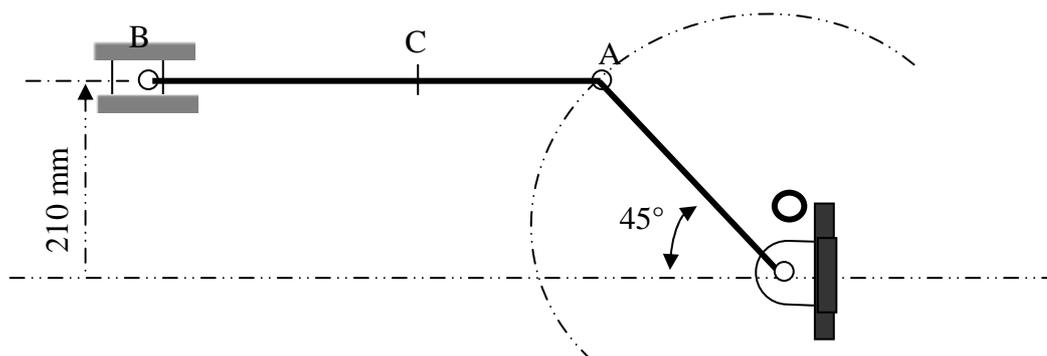

Figure 8
- The crank OA in the mechanism shown, Figure 8, rotates anticlockwise at 5 rev/s and is 300 mm long. The link AB is 600 mm long and the end B moves in horizontal guides.